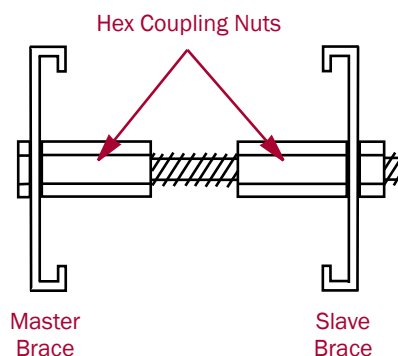

Figure 4-5: Hex Bolt and Nuts After Tightening
- Working inside the libraries from the front, tighten the **front connecting hardware** (see Figure 4-5).